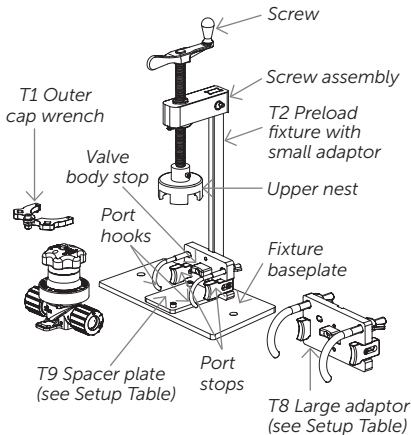

Figure 3.
2. For valves that can be removed from the line, mount the preload fixture (T2) into a vise or fasten to work bench (see Figure 3). For valves that are installed in line and cannot be removed, have one person hold the fixture while another operates the fixture and wrench in steps 3–6. If the valve is mounted to a base plate and cannot be removed, remove fixture base plate and have one person